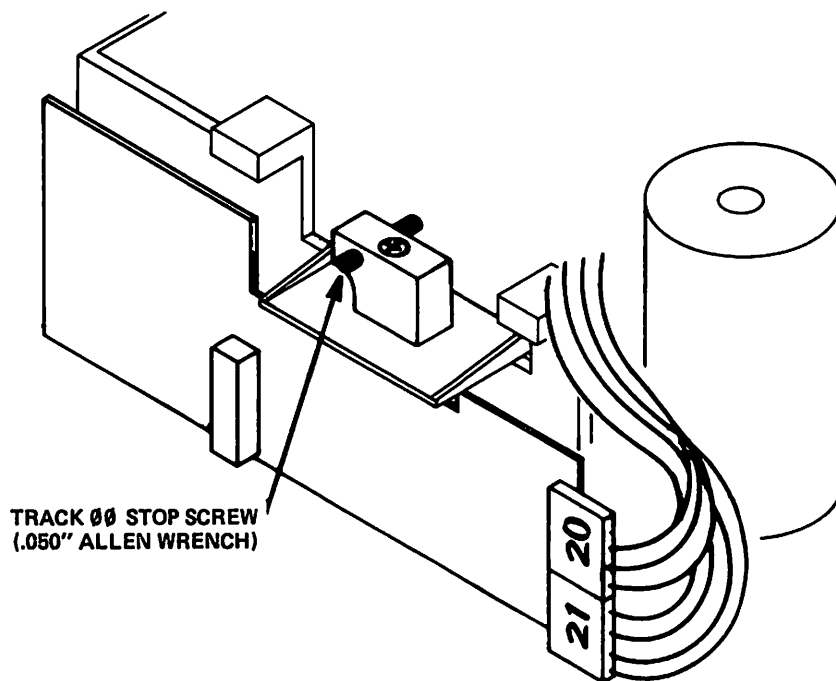

Figure 2-7
- 2.2.3.10 Turn the Track 00 stop screw counterclockwise two (2) turns with a .050" Allen wrench (see Figure 2-7).